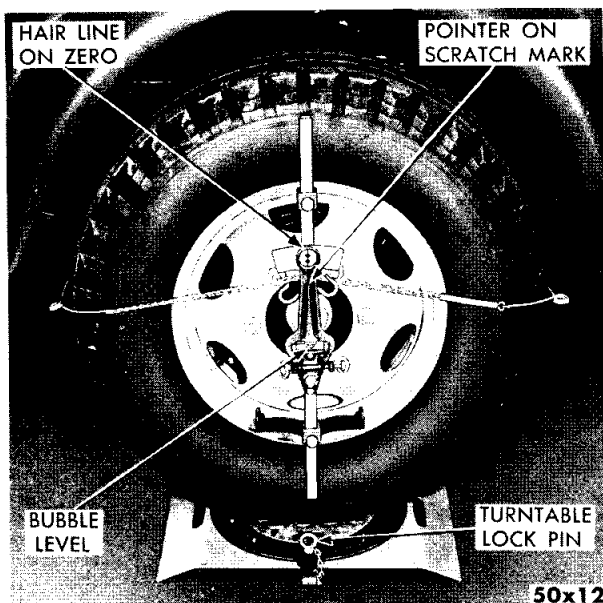
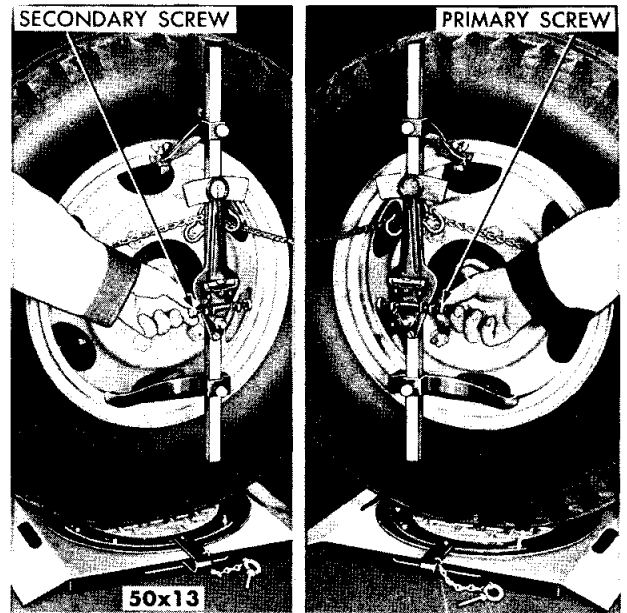

Fig. 18—Gauge Installed on Right Front Wheel
Fig. 19—Checking King Pin Inclination
- (3) Assemble gauge, as shown in Figure 18, so that the quadrant is parallel with the wheel.
- (4) Attach the gauge to the right wheel (using chain) in a vertical position so that the bubble is level, the hair line is on zero and the pointer is on the scratch mark.
- (5) Remove turntable lock pins and turn wheels to the left 20 degrees, as indicated on turntable scale. Adjust secondary screw (this controls short pointer) until the bubble levels (Fig. 19).
- (6) Turn the wheels to the right until the right wheel has been turned 20 degrees past the straight-ahead position. Adjust the primary screw which controls the hair line until the bubble levels. The reading on the 40 degree scale will be the king pin angle (Fig. 19).
- (7) To check the left wheel, follow the same procedure. However, the wheel should be turned to the right 20 degrees at the start of operation.